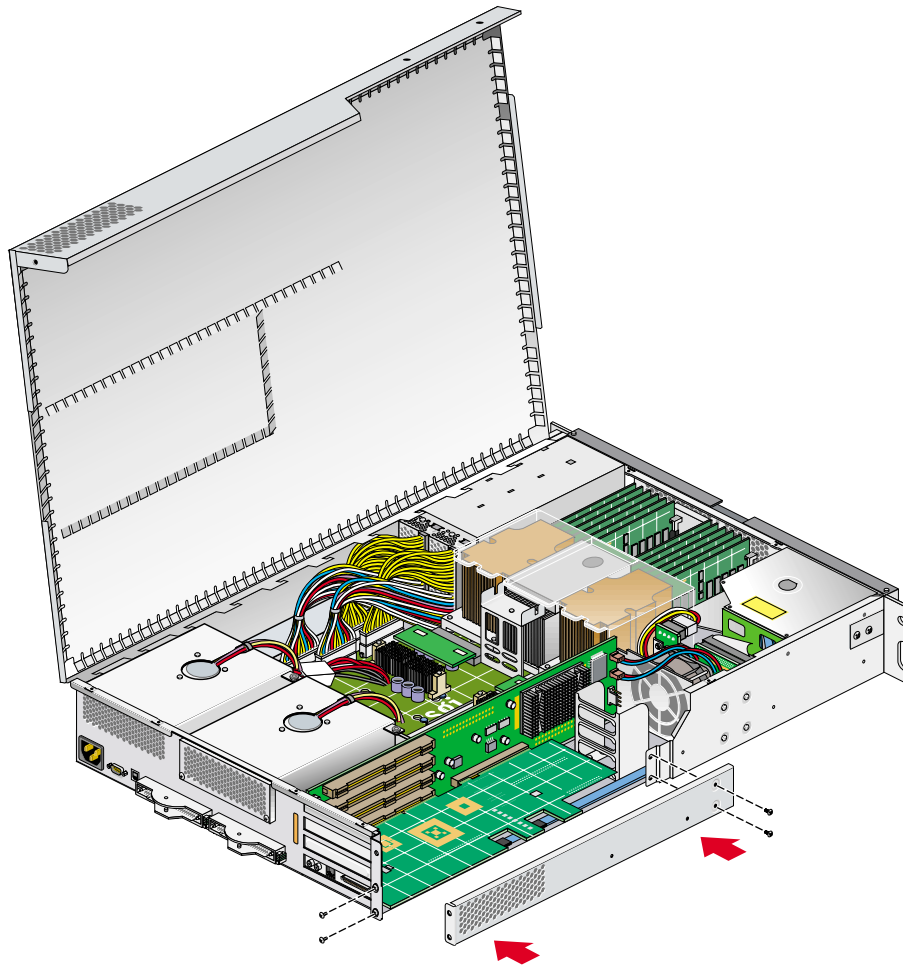

Figure 4-15 Replacing the Lower PCI/PCI-X Support Bracket
14. If you have removed a card from one of the two bottommost card slots, replace the lower PCI/PCI-X support bracket that covers the two bottommost slots, and screw in the four Phillips screws, as shown in Figure 4-15.